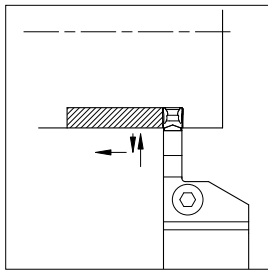

Fig. 1
1. Use compressed air or other measures to remove chips from the insert mounting part (Ref. to Fig. 1).
2. Put the insert into the toolholder and push it makes contact with the back end of toolholder's surface (Ref. to Fig. 1 and 2).
1. Use compressed air or other measures to remove chips and dust from the serration part (Ref. to Fig. 1).
1. Grooving depth over 0.5 mm: For roughing - refer to fig. 1